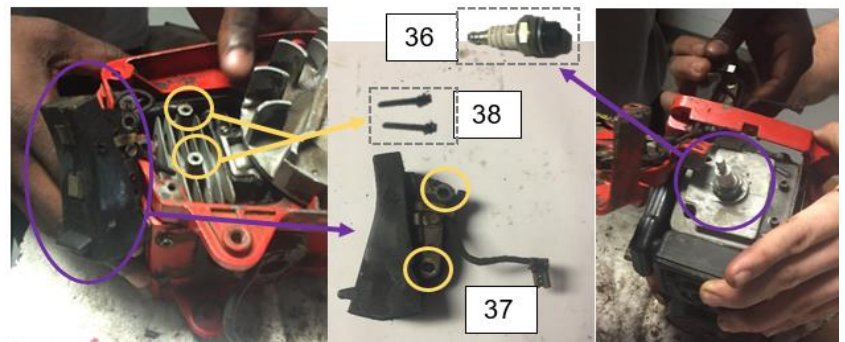

Figure 19: Spark Plug and Spark Generator Removal
Step 16: Looking at the back of the main assembly, a Spark Plug (36) is visible. Use a 13/16in deep socket wrench to pull out the Spark Plug. (Figure 19)